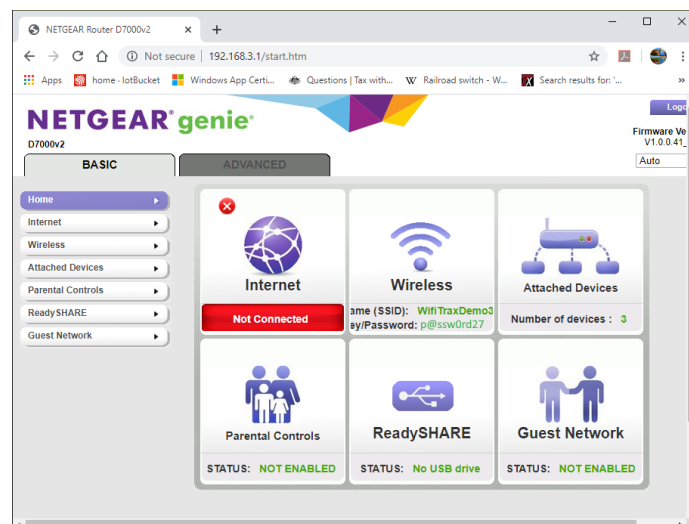

Figure 50 A typical router admin page
- (6) Once you have given the credentials, you will see the admin page. A typical one is shown in Figure 50. Find the “Attached Devices” option and click on it.